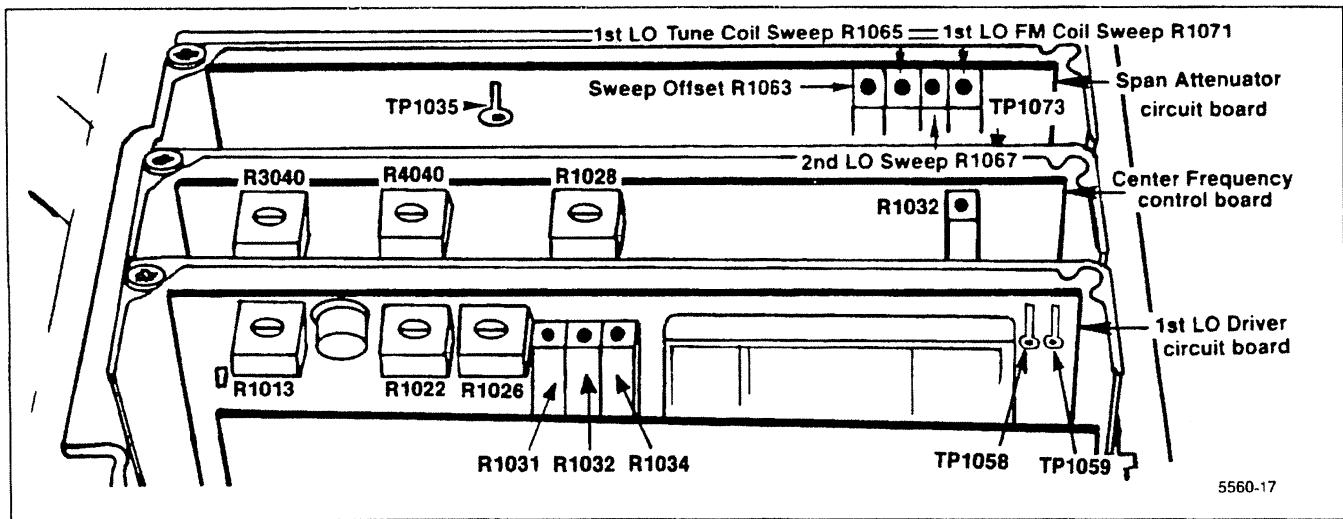

Figure 5-10. Frequency control system test point and adjustment locations.
b. Connect a shorting strap from TP1035, on the Span Attenuator board, to chassis ground (Figure 5-10). Monitor TP1073 on the Span Attenuator board with the voltmeter.
c. Adjust Sweep Offset R1063 (Figure 5-10) for 0.00 V.
d. Remove the shorting strap from TP1035. Press <SHIFT> 0 and select item 1 (FREQUENCY LOOPS CAL), then item 0 (OVERALL SYSTEM) from the menus. Perform the calibration steps as directed ("CONNECT A DVM TO TP1058 ON THE 1ST LO DRIVER BOARD AND GROUND"), etc.
(1) If a "CALIBRATION STEP CANNOT BE COMPLETED" message is displayed, bypass the step, perform the other adjustments then return to the adjustment and try to bring the adjustment in range. If the problem persists, refer to Troubleshooting the Frequency Control System, in the Maintenance section.
(1) Apply the CAL OUT signal to the RF INPUT, set the FREQUENCY to 600 MHz, FREQ SPAN/DIV to 100 MHz, and set the REF LEVEL to display the markers.
(2) Adjust Tune Coil Swp R1065, on the Span Attenuator board (Figure 5-10) for one marker per division over the center eight divisions of the graticule. Reset the CENTER FREQUENCY as necessary to align the markers.
(3) Remove the Calibrator signal and apply 0.2 μ s time marks from the Time Mark Generator to the RF INPUT.
(4) Set the FREQ SPAN/DIV to 5 MHz, REF LEVEL to +10 dBm, and FREQUENCY to about 10 MHz.
(5) Adjust the 1st LO FM Coil Swp R1071 (Figure 5-10) for 1 marker/division over the center eight divisions of the display.
(6) Set the FREQ SPAN/DIV to 20 KHz and apply 50 μ s markers from the Time Mark Generator.
(7) Adjust the 2nd LO Sweep, R1067, for one marker/division over the center eight divisions.